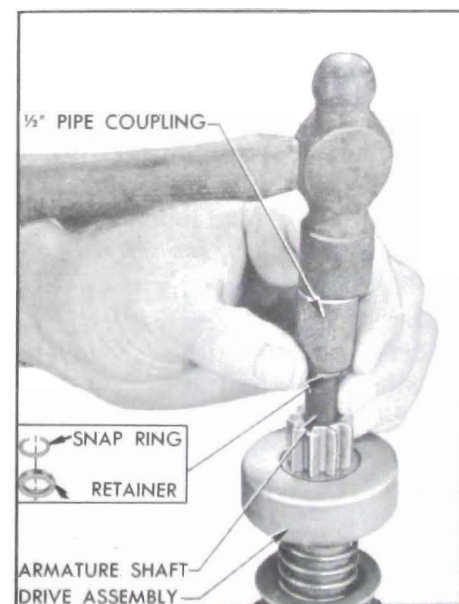

Figure 10-35—Removing Pinion Stop Retainer and Snap Ring
5. To remove drive assembly from armature, place a metal cylinder of proper size (1/2" pipe coupling will do) over end of shaft to bear against the pinion stop retainer. Tap retainer toward armature to uncover snap ring. See Figure 10-35. Remove snap ring from groove in shaft, then slide retainer and pinion drive assembly from shaft. Remove assist spring.